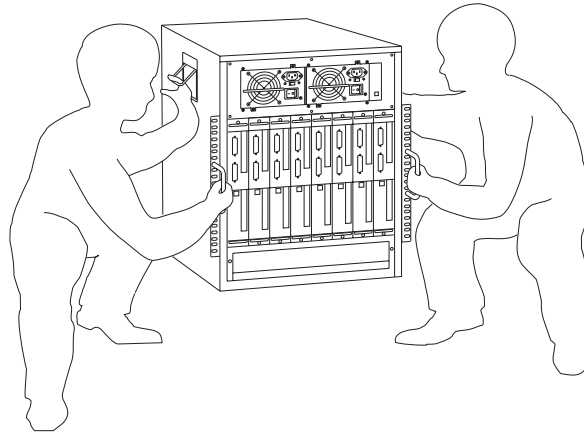

Figure 7. Moving the Unit into a Standard Equipment Rack
1. Two people are needed to move the unit into the rack. Do not attempt to move the unit by yourself. Holding the unit by the front and side handles as shown in Figure 7, carefully lift the unit and place it into the brackets.